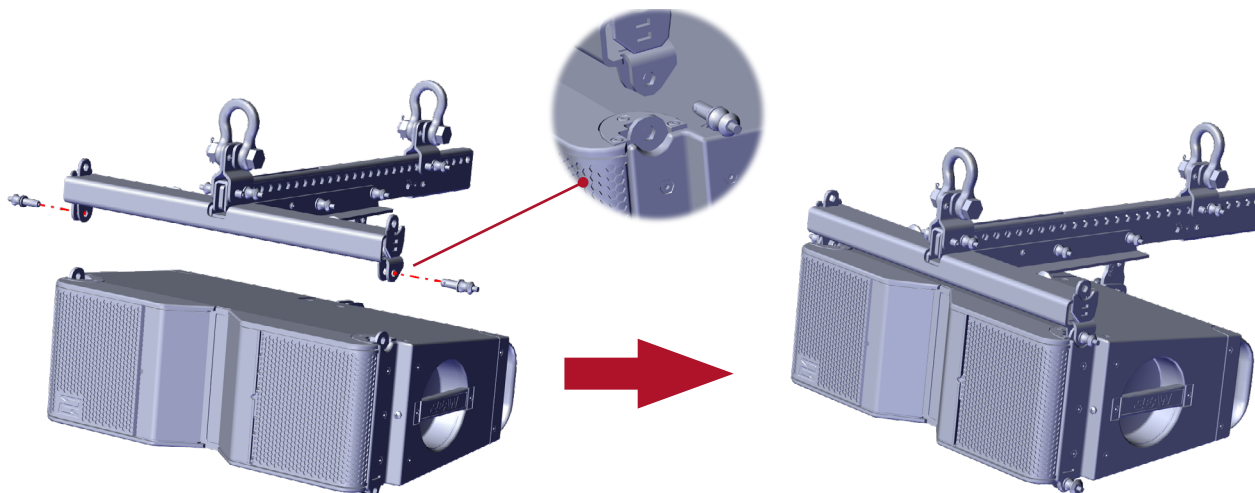

Figure 2
- Place flybar on top cabinet and pin front positions using pins attached to flybar (Figure 2).